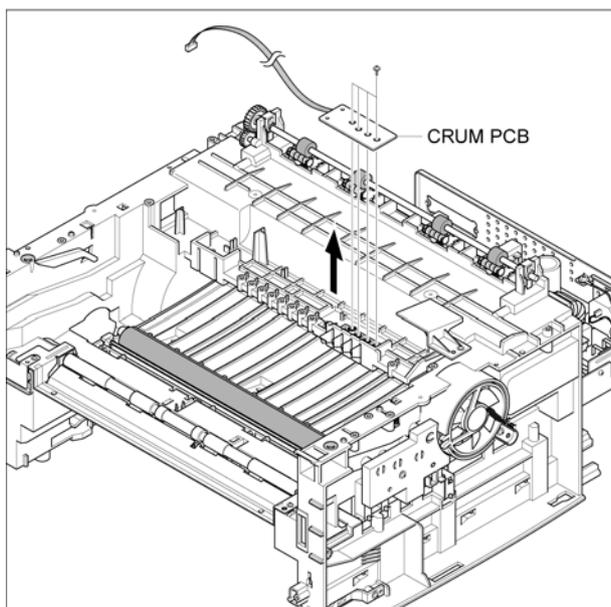

Figure 1
3. Remove 4 screws, then the CRUM PBA, Figure 1.